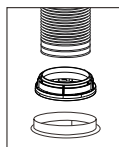
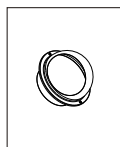

Fig.3
Fig.3.1
Connection to exhaust air pipe (Fig.3 & 3.1)
- When attaching the pipe, connect to the air outlet using a reducing connector (provided) (Fig.3).
- Secure both joints appropriately (Fig.3 & Fig.3.1)